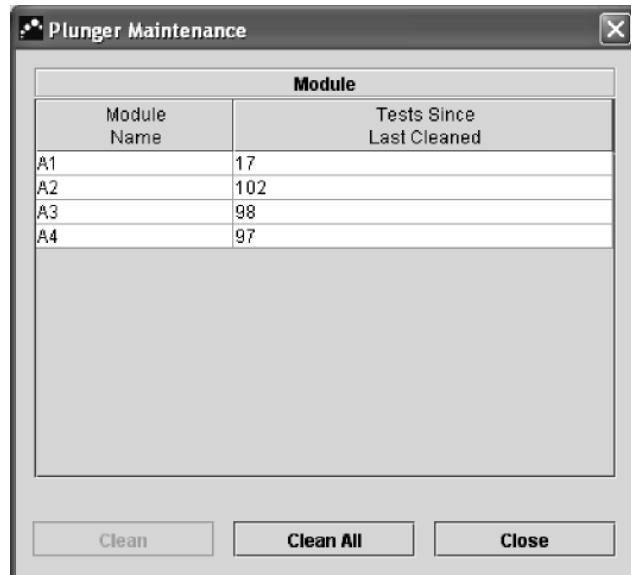

Figure 10-2. Plunger Maintenance dialog box
3. On the Maintenance menu, click Plunger Maintenance. The Plunger Maintenance dialog box appears (Figure 10-2).